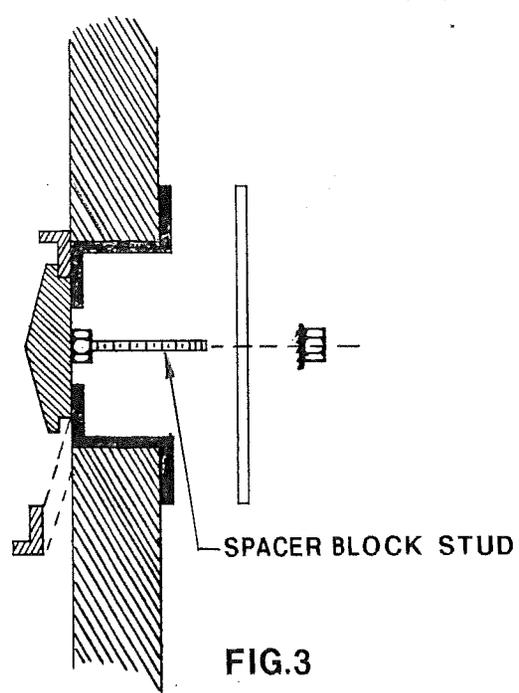

FIG. 3
5. Fasten the division spacer blocks and end spacer blocks loosely into position as shown in *Figure 3*. Cut the horizontal molding strips to length and clamp them into position as shown by tightening the nuts on the spacer block studs.